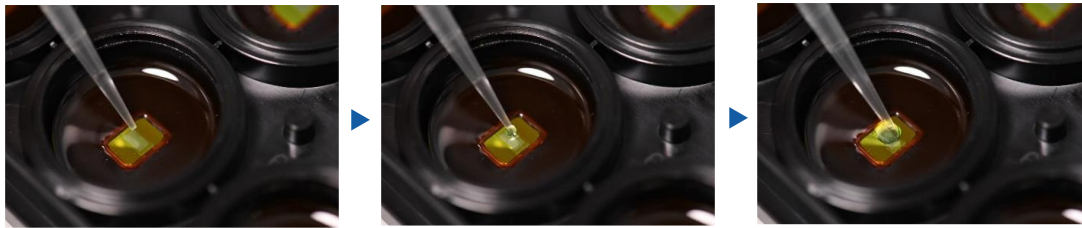

Figure 4. Dot Plating, VERSION B
1. Add cell solution to each well of the MaxTwo Multi-Well Plate at the center of the electrode array according to your plating option (VERSION A: Whole Area, VERSION B: Dot) (see Figure 4) **[E]**.